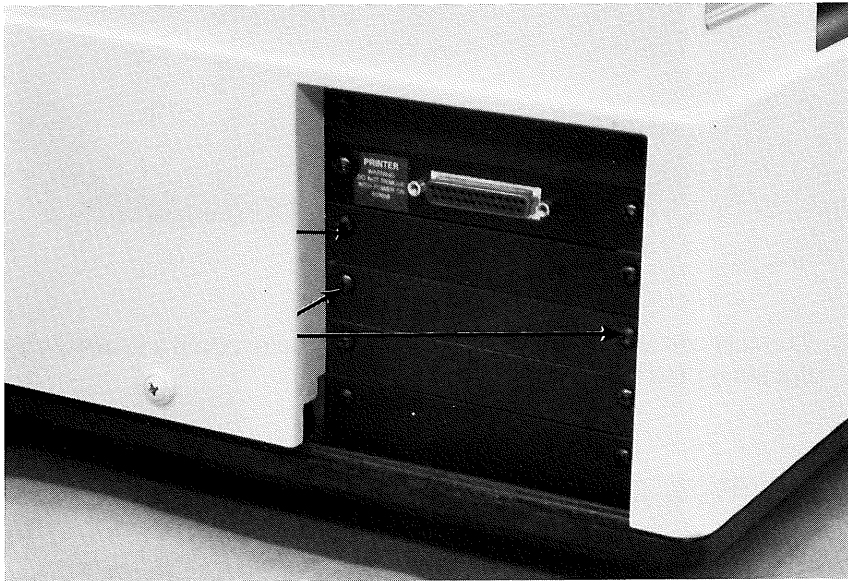

Figure 4.
9. Check the accessory slots on the left-hand side of the instrument to see if a board labelled "PRINTER" is installed. See Figure 4. If it is installed, go to step 13.